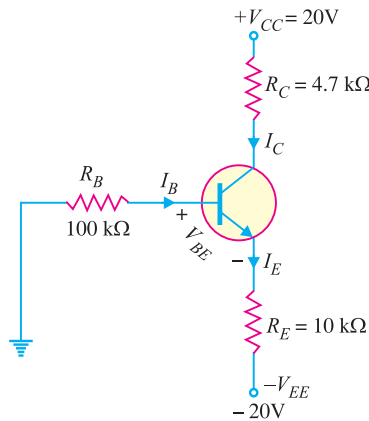

Fig. 9.18
**Example 9.12.** For the emitter bias circuit shown in Fig. 9.18, find  $I_E$ ,  $I_C$ ,  $V_C$  and  $V_{CE}$  for  $\beta = 85$  and  $V_{BE} = 0.7V$ .
**Example 9.13.** Determine how much the Q-point in Fig. 9.18 (above) will change over a temperature range where  $\beta$  increases from 85 to 100 and  $V_{BE}$  decreases from 0.7V to 0.6V.